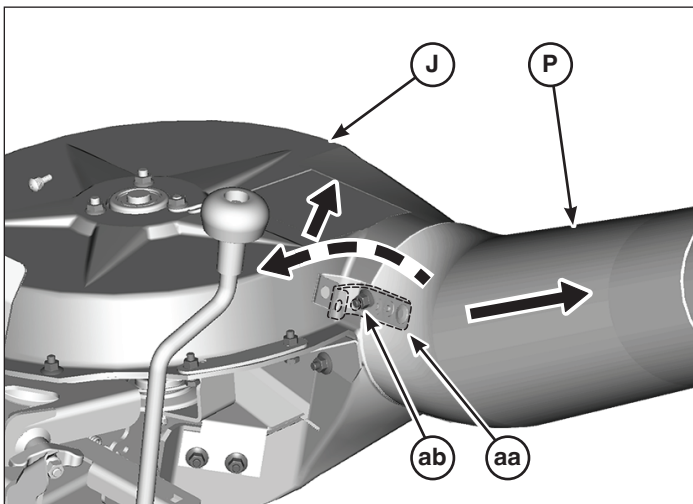

Figure 31
3. Lift clip (aa, Figure 31) over nut and capscrew (ab). Remove lower tube (P) from turbo (J).